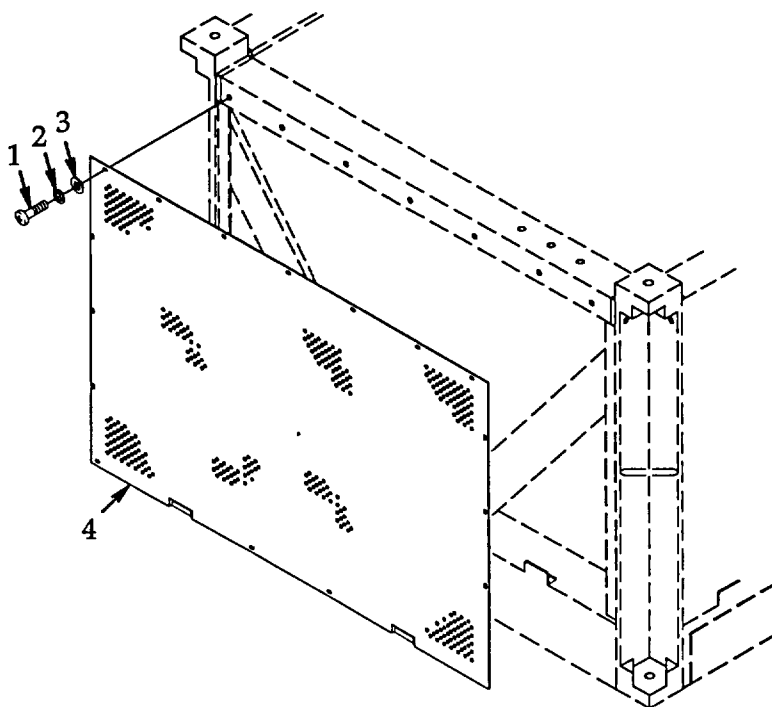

Figure 4-22. End Screen.
a. **Removal.** See figure 4-22.
- (1) Shutdown the FDECU per paragraph 2.4.
- (2) Remove 17 screws (1), lock washers (2), flat washers (3), and end screen (4). Discard lock washers.
b. **Installation.** See figure 4-22.
- (1) Install end screen (4) and align mounting holes. Secure with 17 flat washers (3), new lock washers (2), and screws (1).
- (2) Connect FDECU to power source and operate per paragraph 2.4.